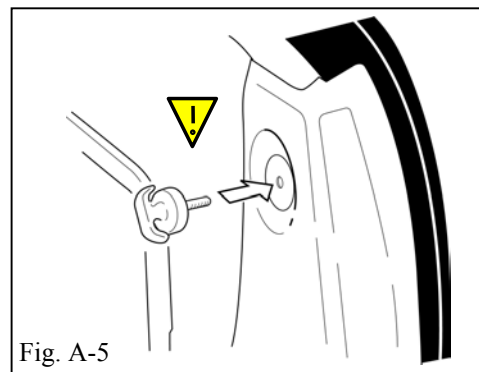

Fig. A-5
5. Replace carpet and trim panel. Thread T-anchor into trim panel as shown. (Fig. A-5)